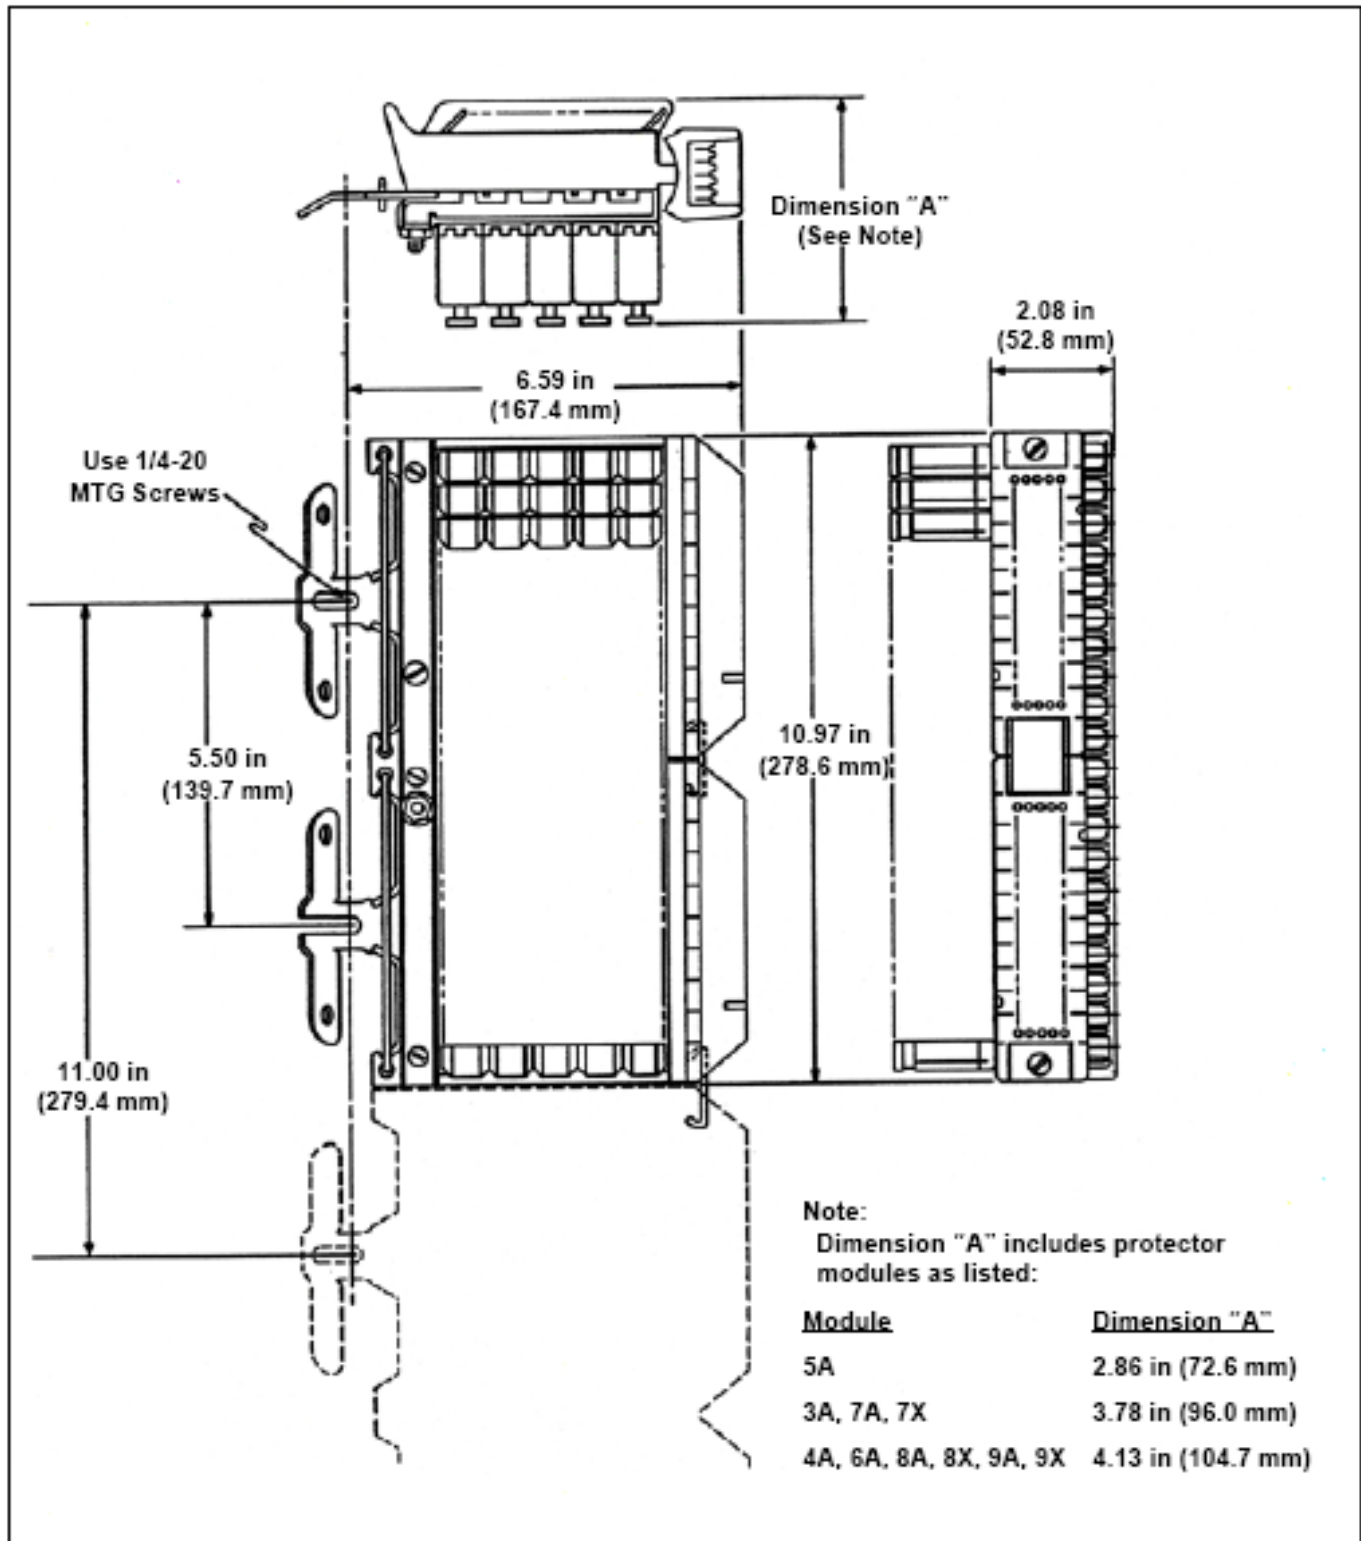

Figure 2 – C-377 Connector Dimensions
2.2 The C-377 connector consist of a connector base. Designed for quick installation on a distributing frame, and protector modules, which plug into the connector base (Figure 1). This connector and its complement of protector modules provide features for testing, identification of incoming circuits, and disconnection of outside cable pairs in addition to current and voltage protection. Units may be ordered with or without a cable stub. Wire gauge and stub length can also be specified. See figure 2 and 3 for C377 connector dimensions.